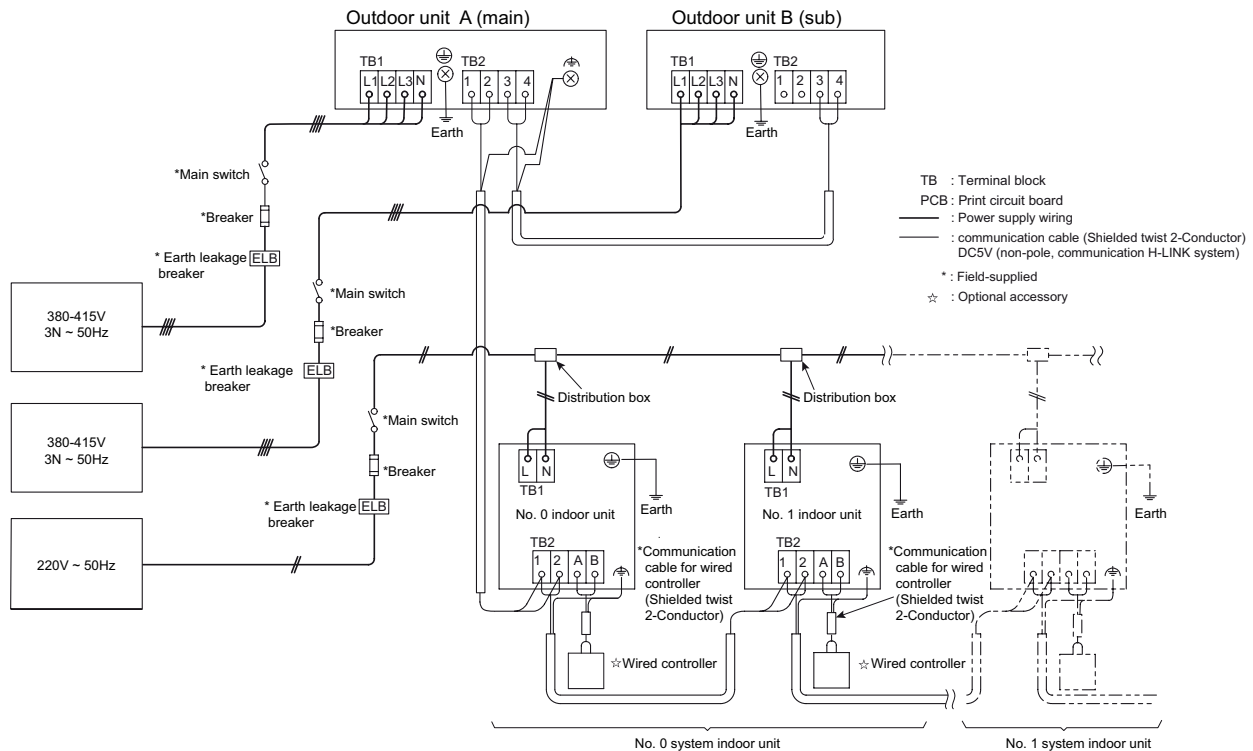

Figure 7.2 Electrical Wiring Instructions
- (1) Connect the power cable to each of the outdoor unit. Each of the outdoor unit connection should consist of a ELB (Earth Leakage Breaker), circuit breaker, and the main switch (S).
- (2) Connect the power wire to each group of the indoor units. Indoor units refer to all the indoor units connected to the same outdoor unit. Each group of indoor units is connected with a earth leakage breaker, circuit breaker and the main switch (S).
- (3) As shown in Figure 7.2, connect the communication cable between indoor and outdoor unit.
- (4) Connect the communication wire between the units in the same refrigerant system (connect the communication cable to the same indoor unit in the case where the refrigerant pipe of the indoor unit is connected to the outdoor unit). If you connect the refrigerant pipe and communication wires to different refrigerant circulation system, malfunction may be caused.
- (5) Use 2-core cable communication wire such as shielded twisted pair. (Do not use 3-core or 3 more core wire).
- (6) Use the same specifications provided in the H-LINK system of the same refrigerant system.
- (7) Separate the communication wire from the power cable. Maintain at least 5cm spacing between the communication wire and the power wire. Maintain at least 1.5m spacing between the communication wire and other electrical devices. If not, place the power wire in a metal conduit to isolate it from other wires.
- (8) Connect the following communication wires to terminals 1 and 2 of the terminal block TB2 of the outdoor unit A (main unit):
- (9) Do not connect the power wire to the communication terminal block TB2. This may damage the printed circuit board.
- (10) Connect GRD wire to the outdoor/indoor unit. GRD wire with grounding resistance of 100Ω (Max) should be connected by qualified personnel.
- (11) Communication wires between the outdoor units within the same refrigerant system will be connected to the terminal 3 and 4 of the terminal block TB2.